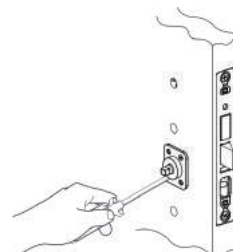

Figure 7
4. Now tighten two screws on the inside adapter and plate assembly. Do not over tighten. (Figure 7)